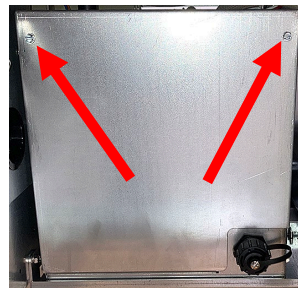

Figure 9
13. Remove the FIB box cover by removing the two (2) 1/4" screws attaching the cover and lifting up on the cover to remove (see Figure 9).